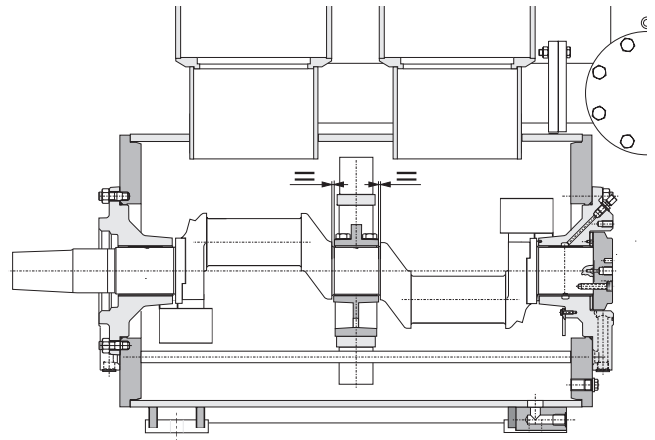

Fig. 4.1-12
- ✓ Subsequently, firmly tighten the bearing block(s) after the intermediate bearing(s) has(ve) been adjusted in accordance with the drawing (measure "=" + 0.5 mm)(Fig. 4.1-12).